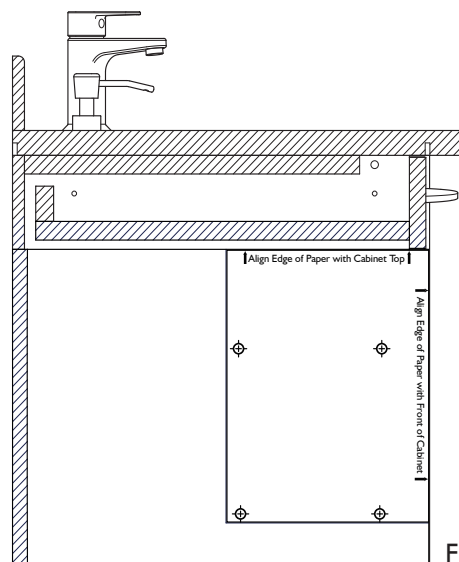

Figure 1
1. Align the Cabinet Post Mount Adapter Template (provided on page 11) with the front edge of the cabinet and the underside of the cabinet table top as shown in Figure 1. Using a power drill with a $\frac{3}{8}$ " bit, drill the 4 holes as shown on the template.